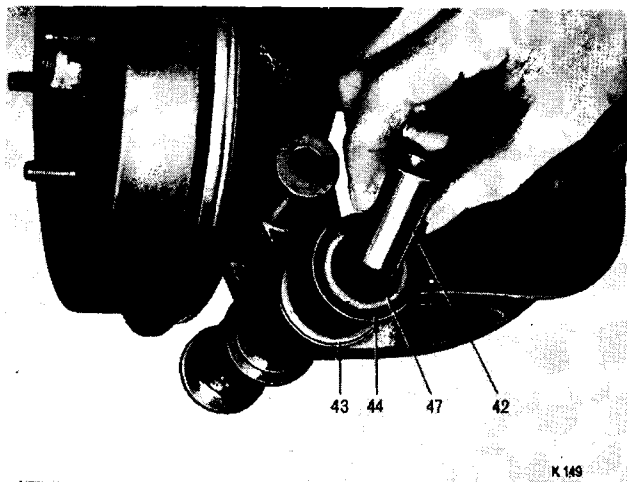

Fig. 48. Fitting lower wishbone distance piece
1. Examine and if necessary replace the seals and bushes as Figs. 48 and 49.